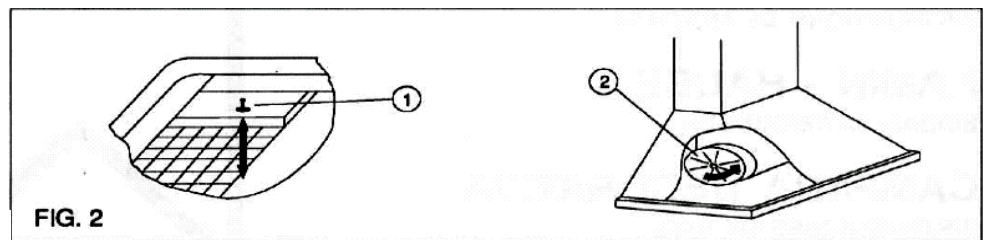

FIG. 2
- 1) Press the handle of the metal grease filter towards the rear part of the unit until it is released from the front housing, and remove it by pressing downwards (Fig. 2 - above).